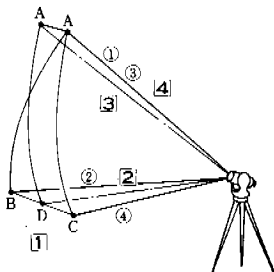

Fig. 27
1. Set the point D half way between point B and C. (Fig. 27)